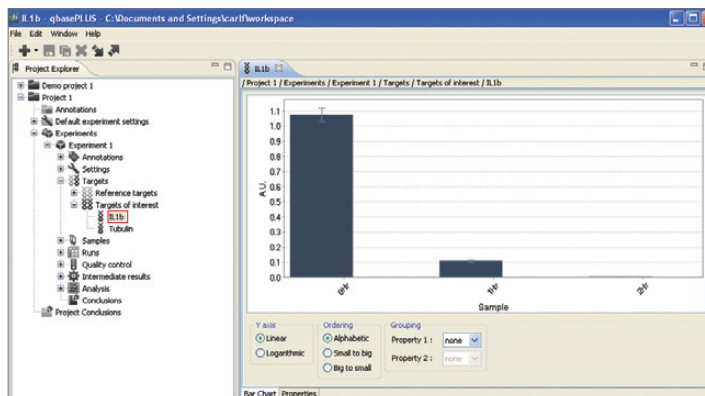

Fig. 13. Graph of gene expression data for a Target of Interest.
- Double click the name of a target in the list of Targets of Interest to view graphical results for the target expression (Figure 13).